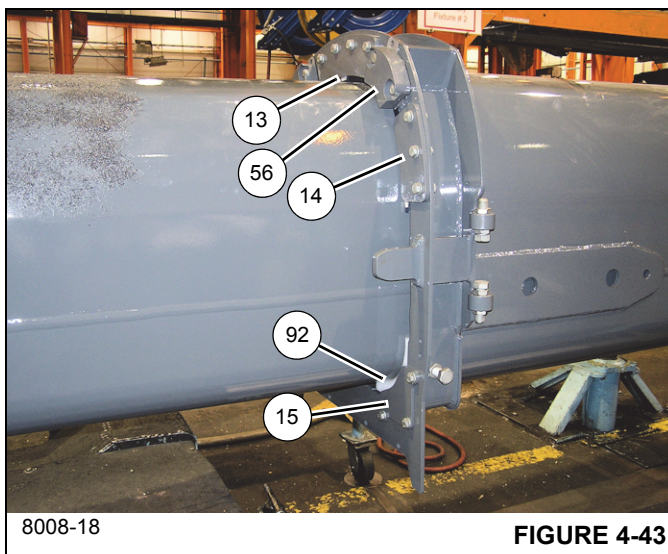
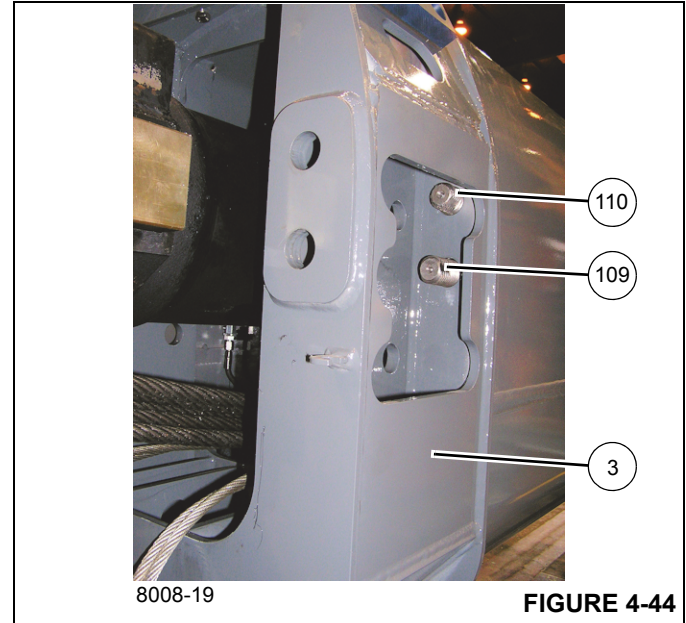

FIGURE 4-43
FIGURE 4-44
**NOTE:** Do not allow the wear pad (94) to hang from the grease hose, as the threads of the wear pad can be damaged. If wear pad threads are damaged, replace the wear pad; do not try to repair with thread tape.
61. Align tele 2 and 3 with each other, then partially insert tele 3 (4) into tele 2 (3).
62. Use the shims (70) to adjust the tele 3 rear wear pad assemblies (71, 82) such that the wear pads are within 2 mm (0.08 in) of the sides and the bottom of tele 2. An equal number of shims should be used on each side.
63. Insert tele 3 (4) three-quarters of the way into tele 2 (3).
64. Using an adequate lift and sling, slightly raise the front of tele 3 (4) for the purpose of installing wear pads into the front of tele 2 (3).
65. Install the upper wear pad (92) into the front of tele 2 (3) using the two bolts (27) and nuts (28) (left and right sides); ensure the thin portion of the upper wear pad (92) is oriented to the side of tele 2 (3) (see Figure 4-43).
66. Install the keeper plate (15) to the front of tele 2 (3) using the three bolts (19), six flat washers (16), three lock washers (17), and three nuts (18) (left and right sides) (see Figure 4-43).
67. Lower tele 3 (4) down onto the newly installed wear pads (92).
68. Install the shims (89) and the front lower wear pads (90, 91) into the bottom of tele 2 (3).
69. Install the left, right, and bottom keeper plates (2x-14, 13) to the front of tele 2 (3) using the bolts (19), flat washers (16), lock washers (17), and nuts (18) (see Figure 4-43).
70. Install the stop block (56) to the front of tele 2 (3) using the two bolts (58), four washers (16), two lock washers (17), and two nuts (18) (left and right sides) (see Figure 4-43).
71. Fully insert tele 3 (4) into tele 2 (3), ensuring the telescope cylinder (6) passes through the rear of tele 2 without damaging tele 2 and telescope cylinder.
72. Install the two tele 4 extend cables (109, 110) into the holes in the rear of tele 2 (3) (left and right sides) (see Figure 4-44).